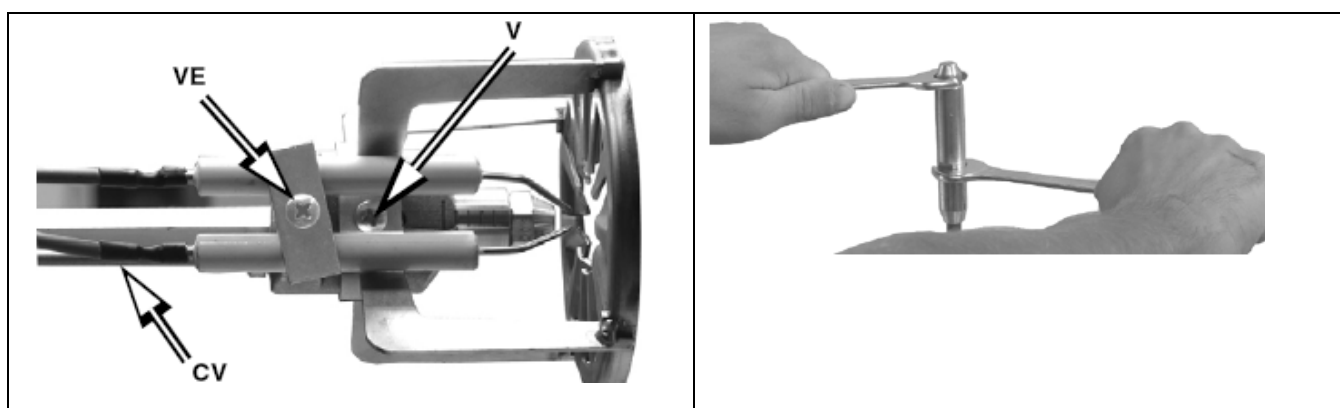
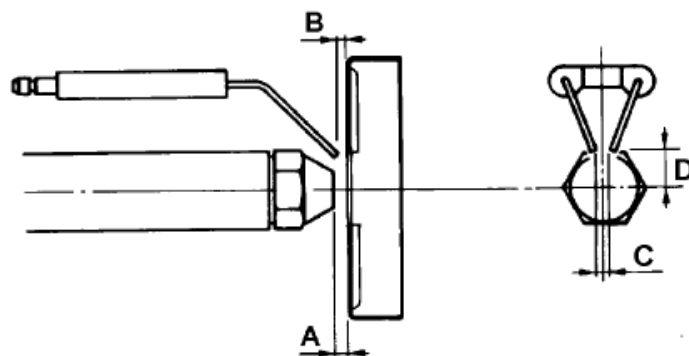

Fig. 10
Fig. 11
1. Before disassembly the nozzle and the electrodes, disconnect the cables CV (Fig. 10), measure the positions quoted in Fig. 11 and make a note in the table on Tab. 3.
2. Unscrew the V screw that fastens the combustion head and remove the head from the nozzle-holder (Fig. 10)
In order to remove the nozzle, it is important to use two wrenches as shown in Fig. 10, to avoid damaging the burner component plate!
5. reassemble tall the elements, remember to fasten the V and VE screws and re-connect the cables CV (Fig. 10), respecting the positions measured previously and quoted on the table below;